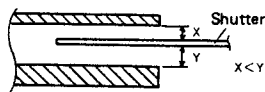

Fig. 14-2 Shutter position
2. Make certain the shutter will pass between the sensor board assembly positioned slightly above center (Fig. 14-2).